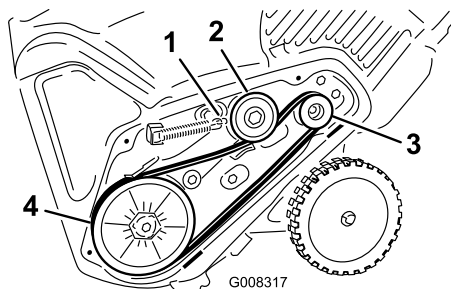

Figure 30
5. Install the new drive belt, routing it as shown in Figure 30.
8. Install the brake spring onto the idler arm (Figure 30).